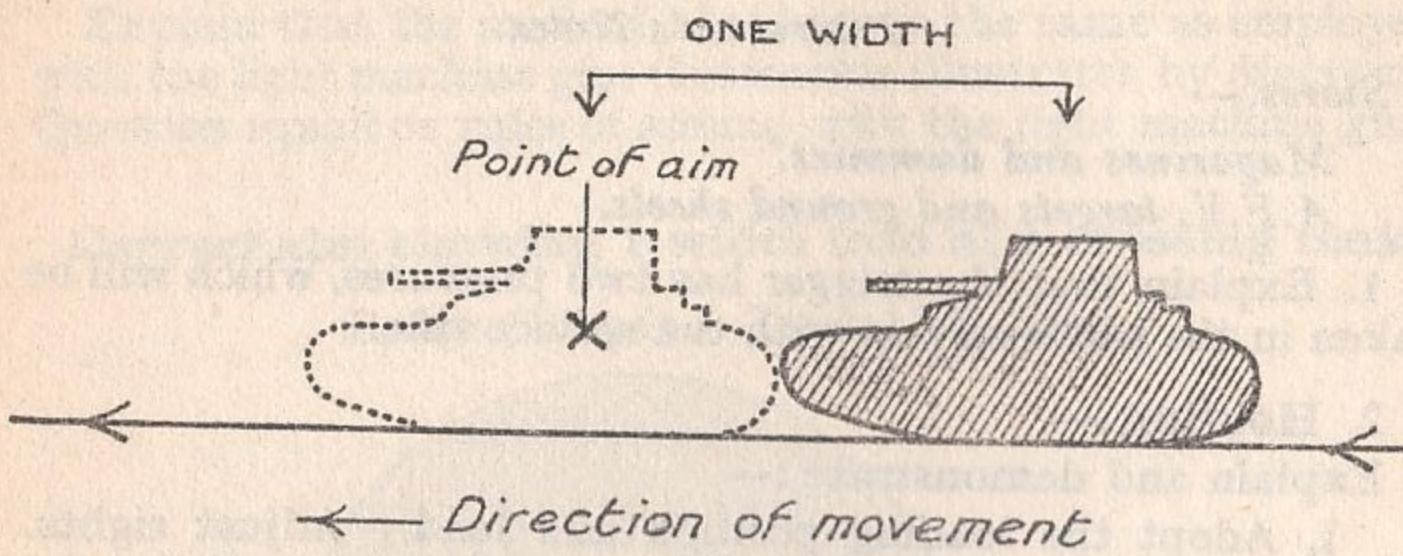

Fig. 6.
- (a) When moving directly across the front, aim one width from the centre of the target (see Fig. 6).